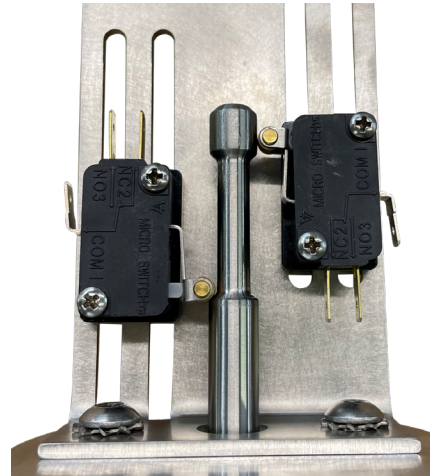
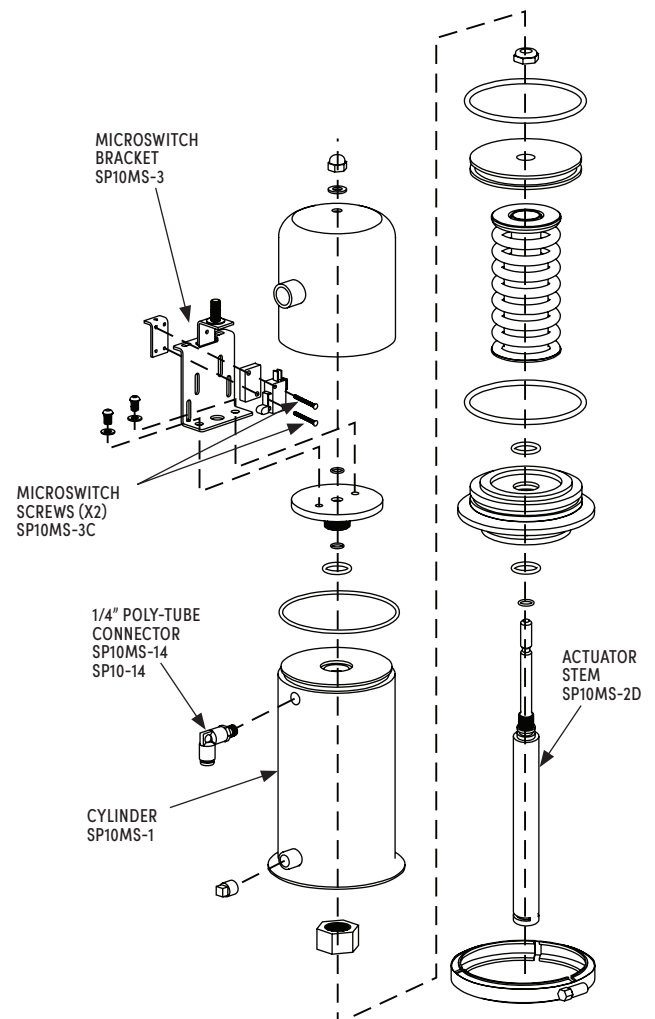

FIG. 15 - MICROSWITCH ADJUSTMENT
FIG. 16 - SP10MS/SP10PRX/SP20MS/SP20PRX ACTUATOR DIAGRAM
5. Adjust the microswitches. This step will require air to apply to the actuator via fitting (see fig. 16) . Loosen the screws holding the microswitches to the microswitch bracket. Push the microswitches as far from the shaft as they will go transversely to the shaft and snug the screws, but do not fully tighten. Test the actuator and watch the actuator stem go up and down. The actuation zone (as shown in fig. 15) must depress the according microswitch when the valve is open and closed. Figure 15 shows the actuator stem "up" or the valve open. Set the microswitch such that the roller is in the center of the actuation zone, the switch is not too far or firmly depressed (thus risking damage to the microswitch) and the microswitch is parallel to the shaft. Repeat the process for the valve-closed microswitch (lower).